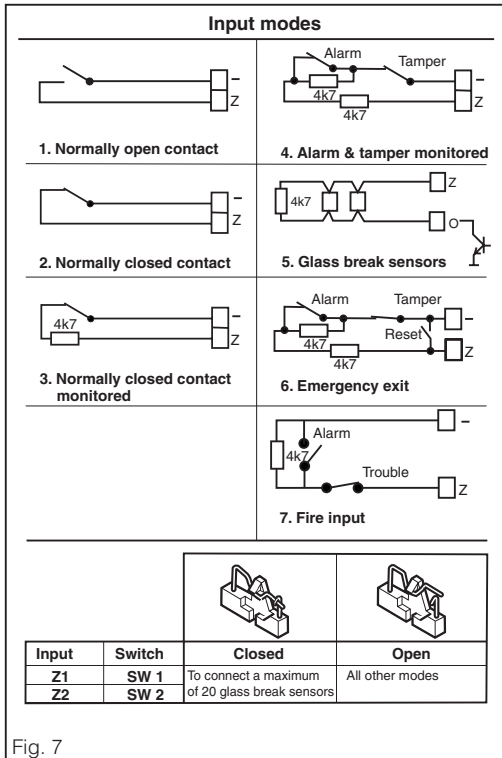

Fig. 7
4.3 Inputs (fig. 7)
All inputs can be operated in modes 1 to 4 and 6 to 7 (fig. 7). Inputs Z1 to Z2 can also be operated with glass break alarms. To do this, the relevant switches SW1 to SW2 must be closed and one terminal of each glass break sensor connected to one of outputs O1 to O2, which must be programmed for «Latching sensor reset». When wiring fire detectors, any trouble output present can be looped directly into the line. For fire detectors where the power has to be disconnected to reset the alarm, the negative can be connected via an output which is programmed as a «Latching sensor reset» output.